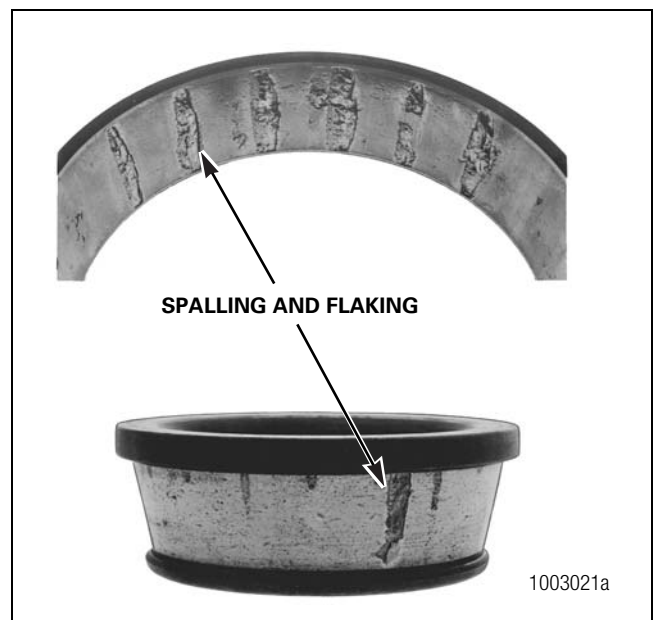

Figure 5.5
- The cup and cone inner race surfaces that touch the rollers are damaged. Figure 5.5.